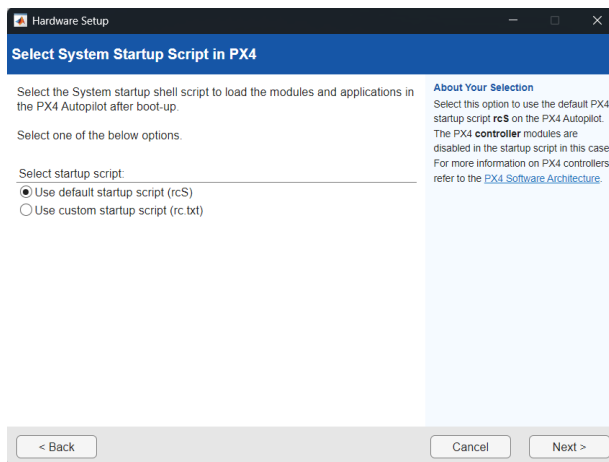

Figure B.9: Screenshot of the system startup script selection window.
11. The PX4 autopilot setup sequence can be modified. However, the default system startup script was used for this research as shown in Figure B.9. Make a selection, and proceed to the next screen